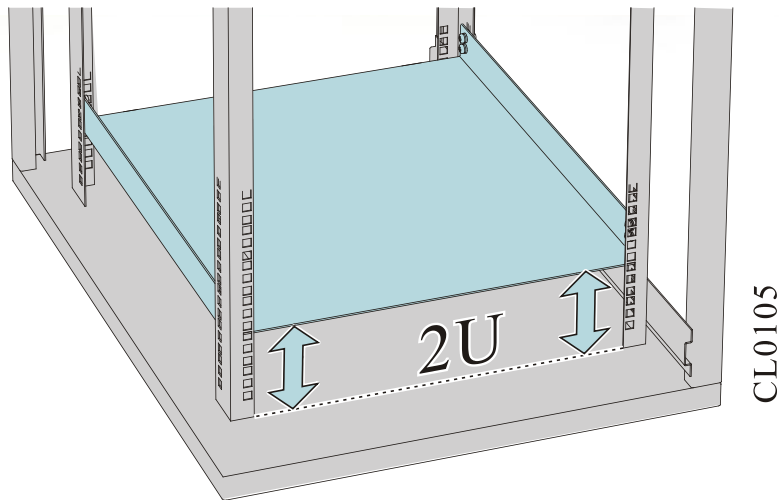

Figure 3-1 The minimum slide height
- ❖ Ensure that the distance between the slide to the bottom cabinet is 2U and three holes on the square hole bar is 1U, as shown in Figure 3-1.